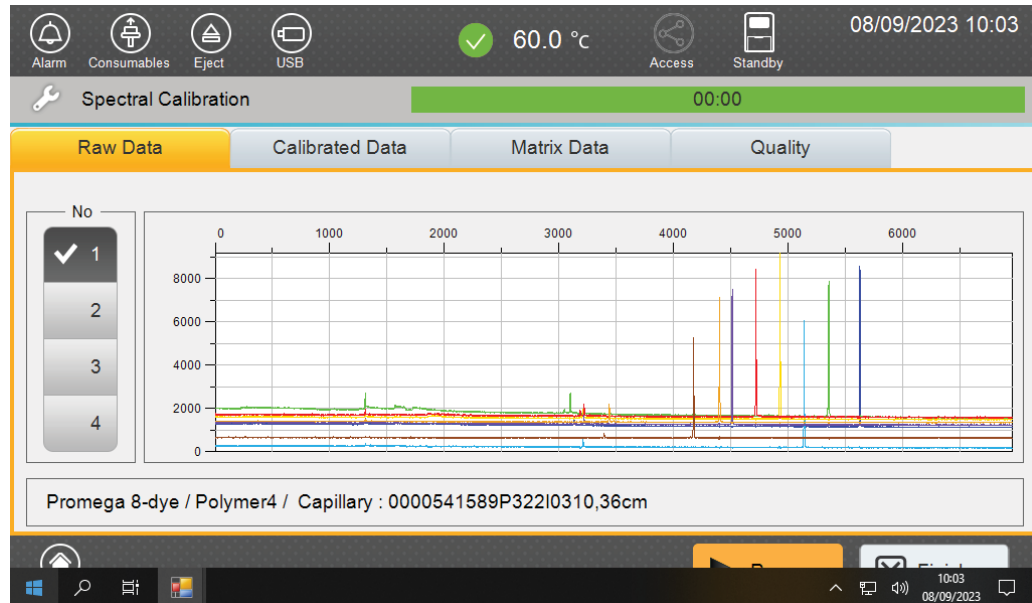

Figure 10. Spectral Calibration 'Raw Data' tab screen.
- Following the run, the 'Raw Data' tab (Figure 10) will be displayed. The minimum peak height for spectral calibration is 500 relative fluorescent units (RFU) and the maximum peak height is 32,767RFU.